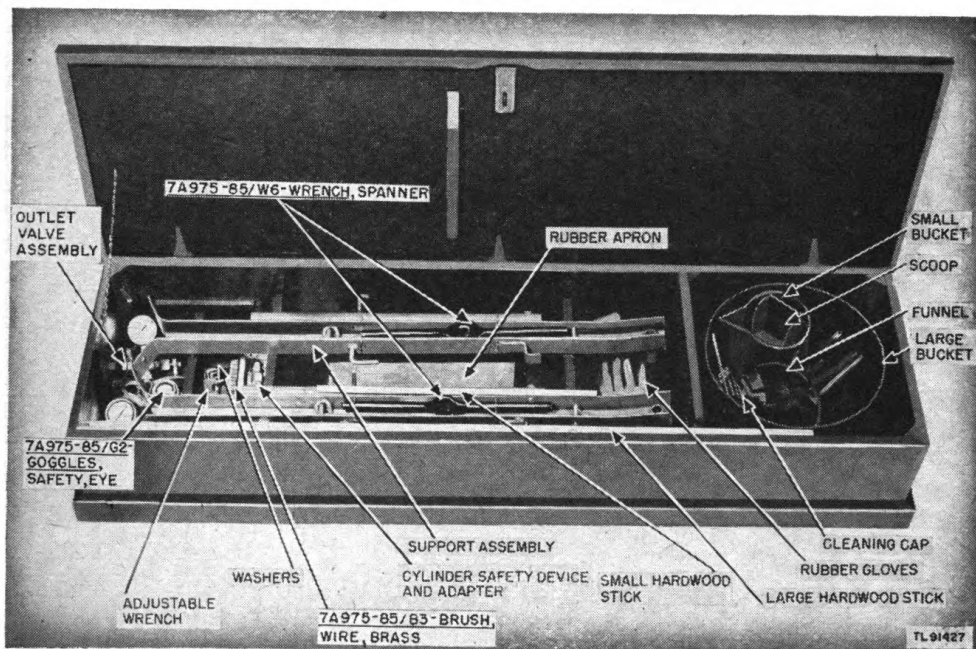

Figure 6. Chest for accessories, open.
a. GENERAL. The chest is a wooden box in which the support assembly, accessories, and running spare parts are stored and shipped. The chest is 61¼ inches long, 20¾ inches wide, and 11½ inches high. The top cover is hinged and is held upright, when open, by a chain at one end. The inside of the chest is divided into three main sections for the convenient storage of the various items. (See fig. 6.)
a. MOUNTING CYLINDER ON SUPPORT ASSEMBLY. Two operators are required to mount the cylinder on its support assembly. The support assembly and all accessories are stored in the chest. (See fig. 6.)